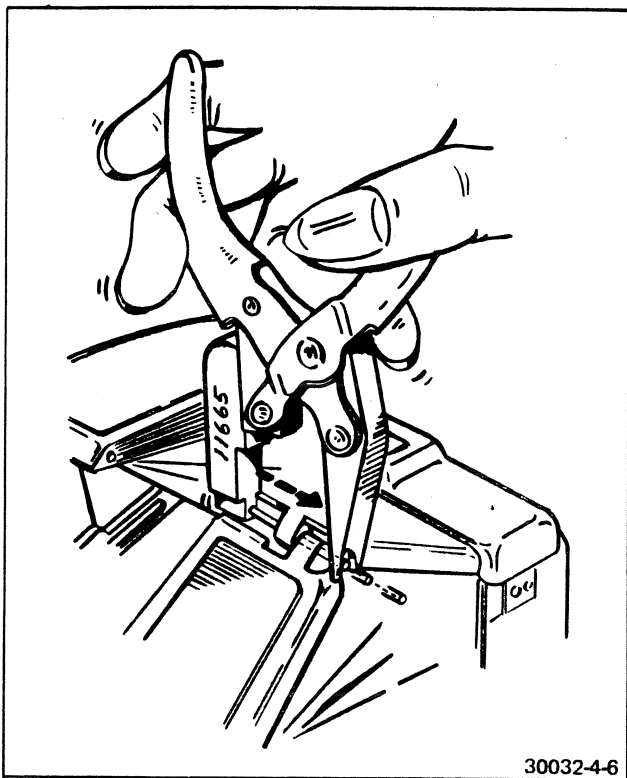

FIGURE 4-6 REMOVING SHORT-COVER-TO-MIRROR COVER HINGE PINS
11. Using Special Tool #11665, remove the two short-cover-to-mirror-cover hinge pins (Figure 4-6).